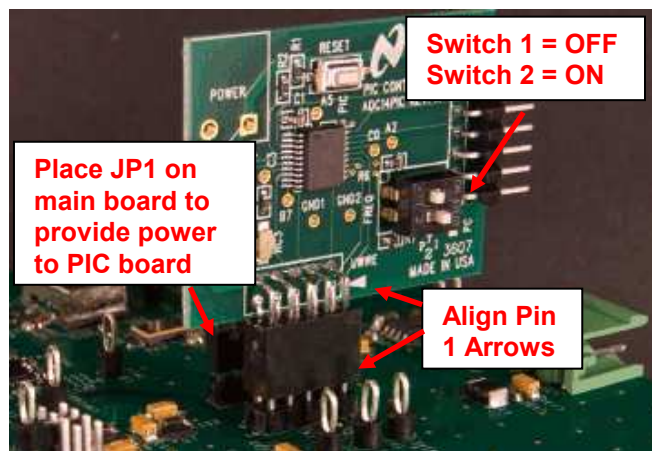

Figure 4: PIC microcontroller Board Connection and Configuration
- Plug the PIC microcontroller board onto the dual-row header labeled "H3: uWIRE" as shown in Figure 4. Align the arrows on the two boards to ensure proper orientation. JP1 should have a jumper installed on the main board to provide power to the PIC microcontroller board. Lastly, flip the switches on the PIC microcontroller board to the following positions: Switch 1 = OFF, Switch 2 = ON.